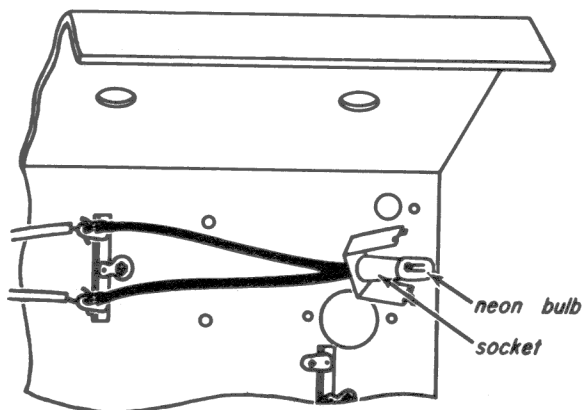

Fig. 14-8
Step 3. Solder the pilot lamp socket leads across the filter choke, as shown in Fig. 14-8.